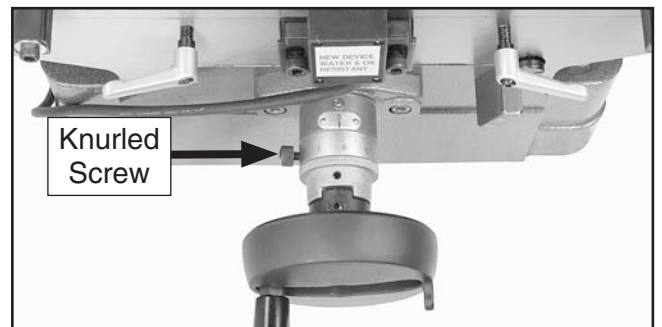

Figure 45. Y-axis handwheel features.
- Loosen the knurled screw (see **Figure 45**), align the 0 mark on the handwheel bracket with the corresponding 0 mark on the handwheel, then tighten the screw.